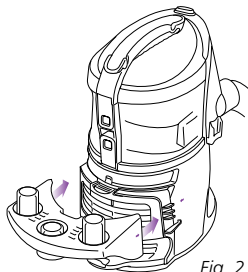
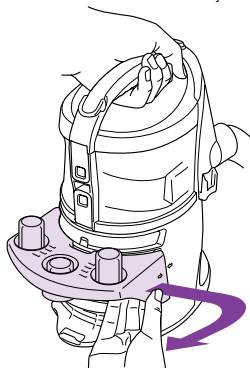

Fig. 2
Fig. 3
- 2 Insert the removable tool caddy onto the back of the Canister Vac. (**fig. 2**) To remove the tool caddy, hold the vacuum by the handle, pull out slightly from the right side and then remove it from the Canister Vac. (**fig. 3**)